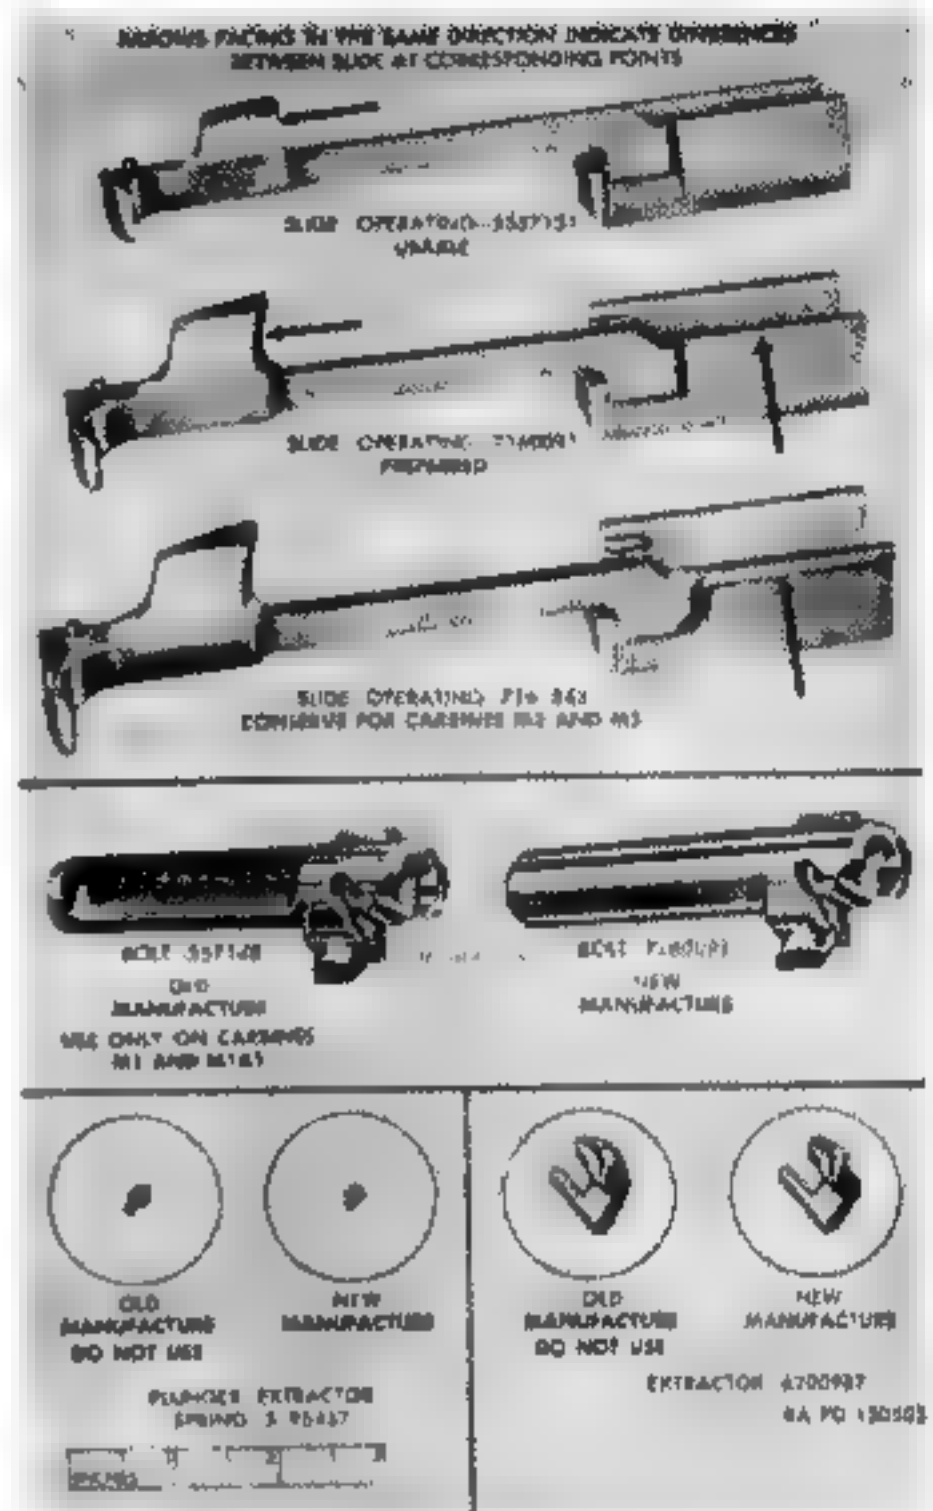

Figure 58. Slide, bolt, extractor and plunger.
slide where it contacts piston for levelness. Unevenness at this point may cause malfunction. Check camming surfaces for burrs and wear (Fig. 58). Inspect the operating slide under "black light" for cracks in the areas specified below (DEPOT MAINTENANCE ONLY). Reject slides having cracks around the operating cam, at the junction of the inertia block and arm, and around the disconnecter lever cam on M2 type slide 7161843. Check visually and reject operating slides showing breaks around the hole for the operating slide stop. Cracks at this point are acceptable. Use operating slide 5357151 (usable) or operating slide 7160091 (preferred) on carbines M1 and M1A1 until the supply is exhausted, then use 7161843 (Fig. 58). Until the supply of the two former slides is exhausted, conserve operating slides 7161843 for use on carbines M2 and M3.
f. Extractors, with "V" type retaining notch or modified retaining notch, will be replaced and disposed of during rebuild. Use only new type plungers as shown in figure 58 and only previously unused plungers and plunger springs.
i. Check to assure that only full round bolts 7160092 are used in the carbines M2 and M3 (Fig. 58). Bolt 557148 will be used in carbines M1 and M1A1 in so far as practicable in order to conserve supply of bolt 7160092 for use in the carbines M2 and M3.